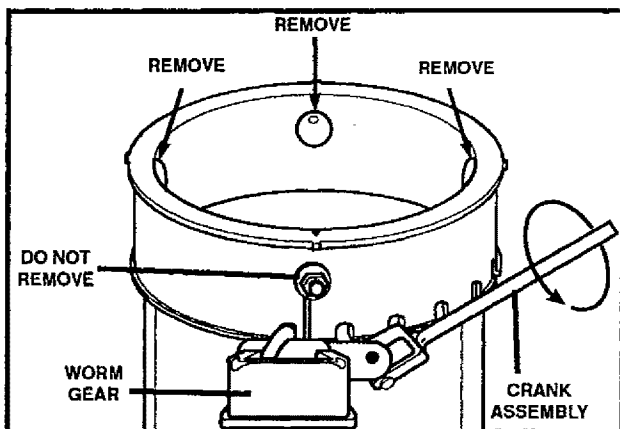

FIG. 7
- Remove three carriage bolts, flat washers, and nuts from snow chute flange. **DO NOT** remove carriage bolt over worm gear (See FIG. 7).